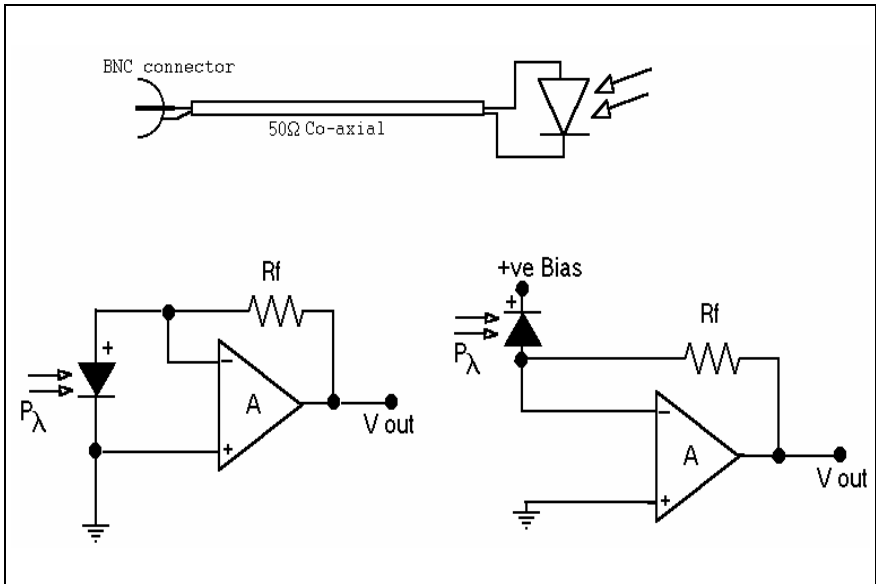

Figure 4
A simple conversion of the detector current output to a voltage (V_{out}) is possible with the addition of an operational amplifier (A) and a feedback resistor (R_f). Refer to Figure 4.